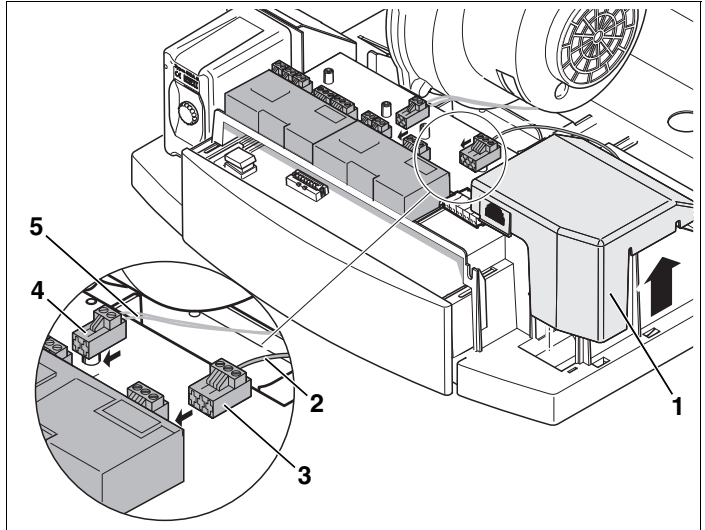

Fig. 3 Electrical connections
- Remove cover from terminal box (Fig. 3, **Item 1**).
- Carefully take the main power cable (Fig. 3, **Item 2**) and bus cable (Fig. 3, **Item 5**) from the boiler's cable harness and connect them to terminals (Fig. 3, **Item 3 and 4**) of the function module.
- Carefully connect other components to terminals (Fig. 3, **Item 3 and 4**) on the function module in accordance with the connection diagram.